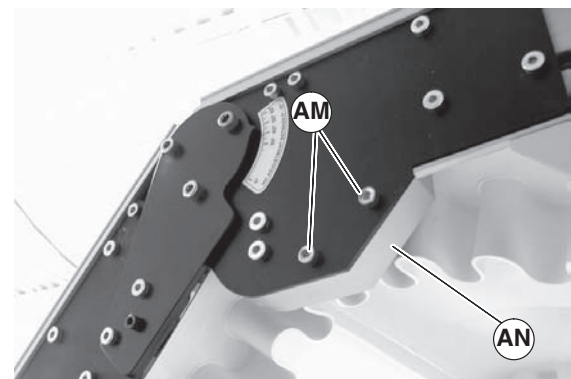

Figure 30
- Install knuckle guard (Figure 30, item AN) on both sides of knuckle with screws (AM). Tighten screws to 25 in-lbs (3 N-m).